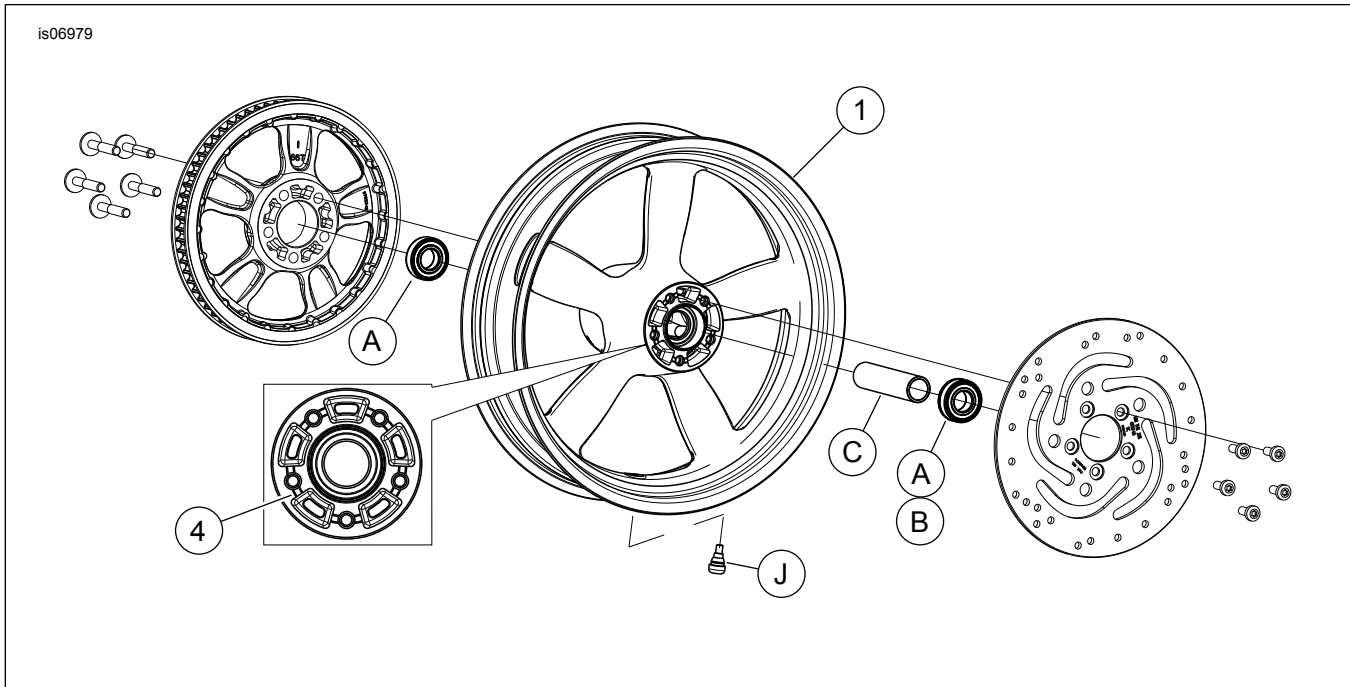

Figure 1. Service Parts: Rear Vapor Wheel (17 inch shown)
See Figure 1 and the Service Parts Tables.
2. See Figure 1. Install valve stem assembly (J) on wheel. Refer to the service manual.